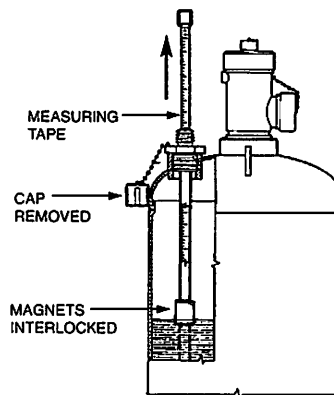

FIGURE 1
2. Lift the measuring tape to the end (or approximately 3 in. above the expected level). Slowly lower the tape until a magnetic interlock is felt (see Figure 1).